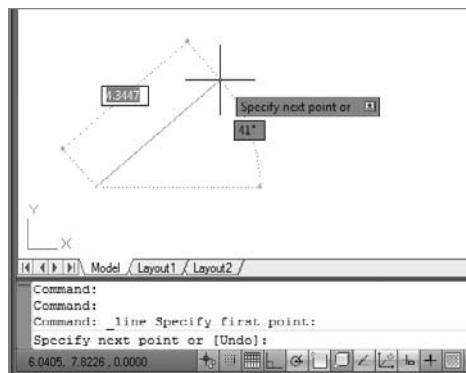

FIGURE 2.8 The command prompt changes for the next point, and the line's length and direction are shown in the drawing area.
6. Look at the command window again and notice that the prompt has changed (see Figure 2.8).